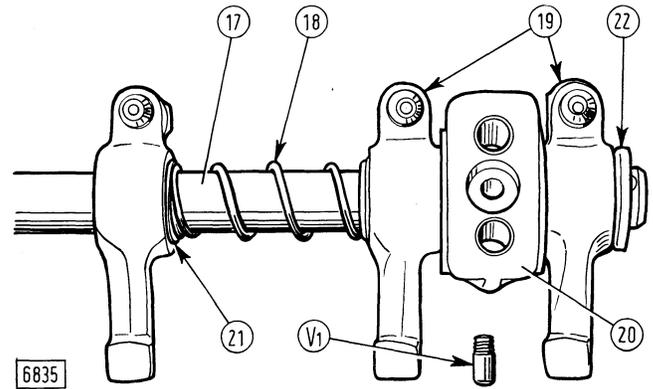

Fig. 19 - Rocker Assembly
To separate end bracket (20, Fig. 19) from rocker shaft (17) withdraw screw (V₁).